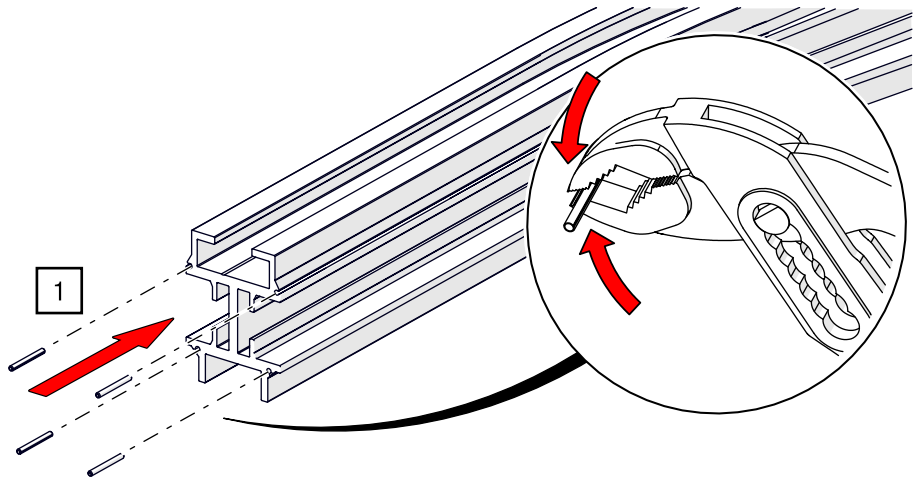

Fig. 43: Track splice – Insert connecting pin into the track section
1. Compress the connecting pins slightly conically with a pipe wrench and insert them into the designated centre holes (see Fig. 43).